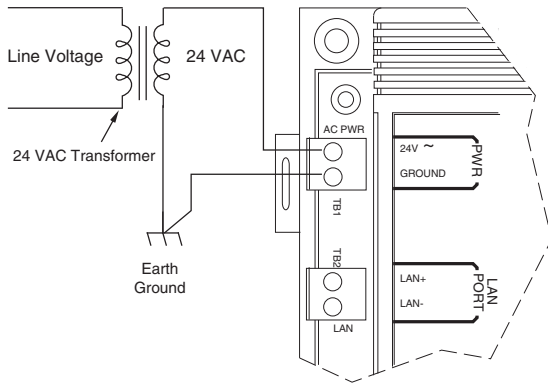

Figure 8. Power Connections
1. Connect the 24 VAC input lead from a separate, isolated 24 VAC transformer to TB1-1 (24 VAC), see Figure 8.